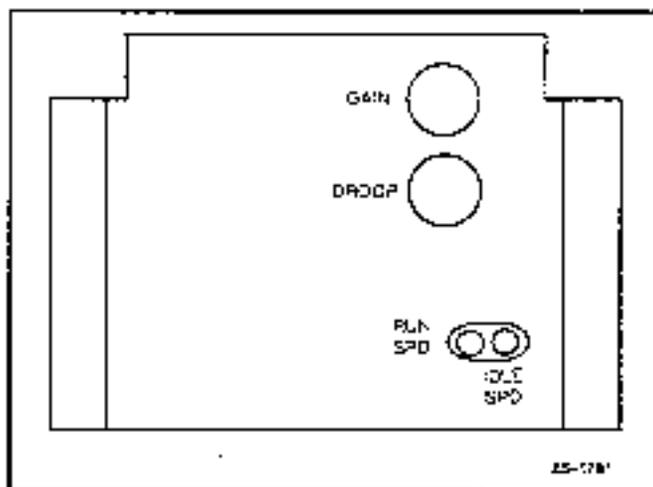

FIGURE 8-3. ELECTRIC GOVERNOR
Generators which are to operate at 60 Hz full load, must have the engine no-load governed speed adjusted to; (see Figure 8-3).
For generators which are to operate at 50 Hz full load, the engine no-load governed speed must be adjusted to; (see Figure 8-3).
For isochronous operation, the droop potentiometer (see Figures 8-3 and 8-4) must be turned fully counter-clockwise and will not require any further adjustment.
2. Make sure the engine speed is constant. If the engine speed is constant, turn the Gain potentiometer (see Figures 8-3 and 8-4) clockwise slowly until the engine speed is not constant.